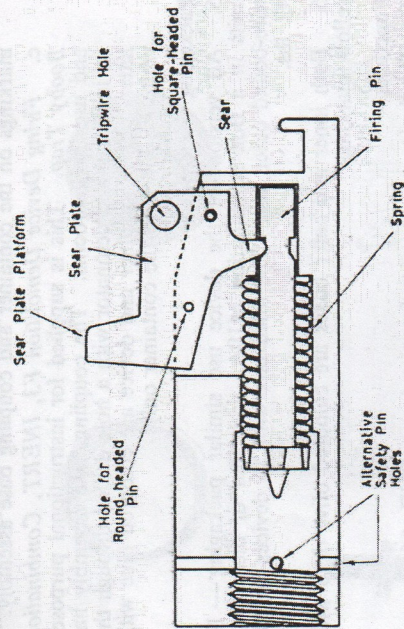

Figure 2
9. The switch portion incorporates a sear plate fitted with two removable pivot pins. When both are in position, the sear plate is locked. The sear is engaged in the firing pin, which is held back against its compressed spring (See Figure 2).